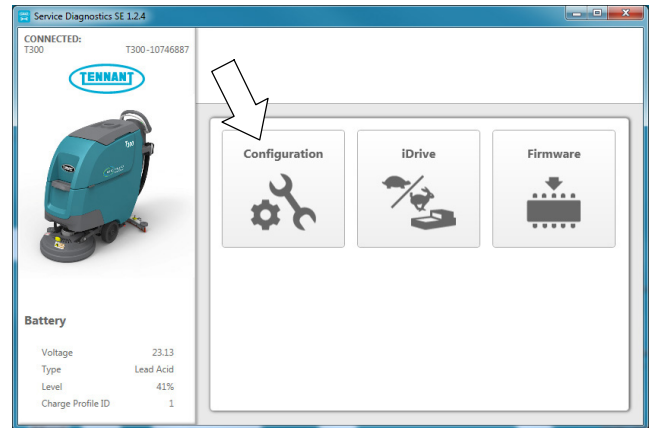

Fig. 21
- From the Home screen, press the Configuration button (Figure 21).